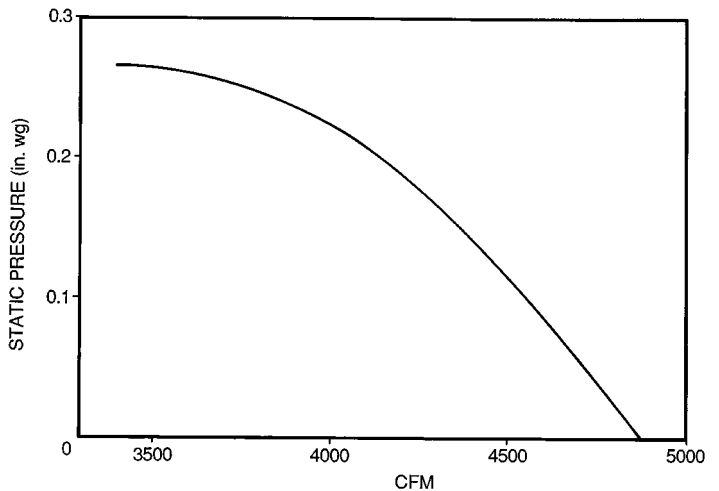

Fig. 24 — Fan Performance Using Accessory Power Exhaust
1. The factory-assembled horizontal adapter substantially improves fan performance. See Fig. 24.